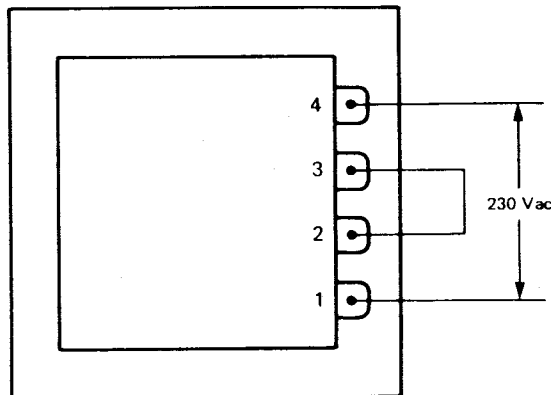

FIGURE 3. TRANSFORMER CONNECTIONS FOR 230 VAC OPERATION
- Transformer jumpers for 230 Vac line voltage are shown in Figure 3.